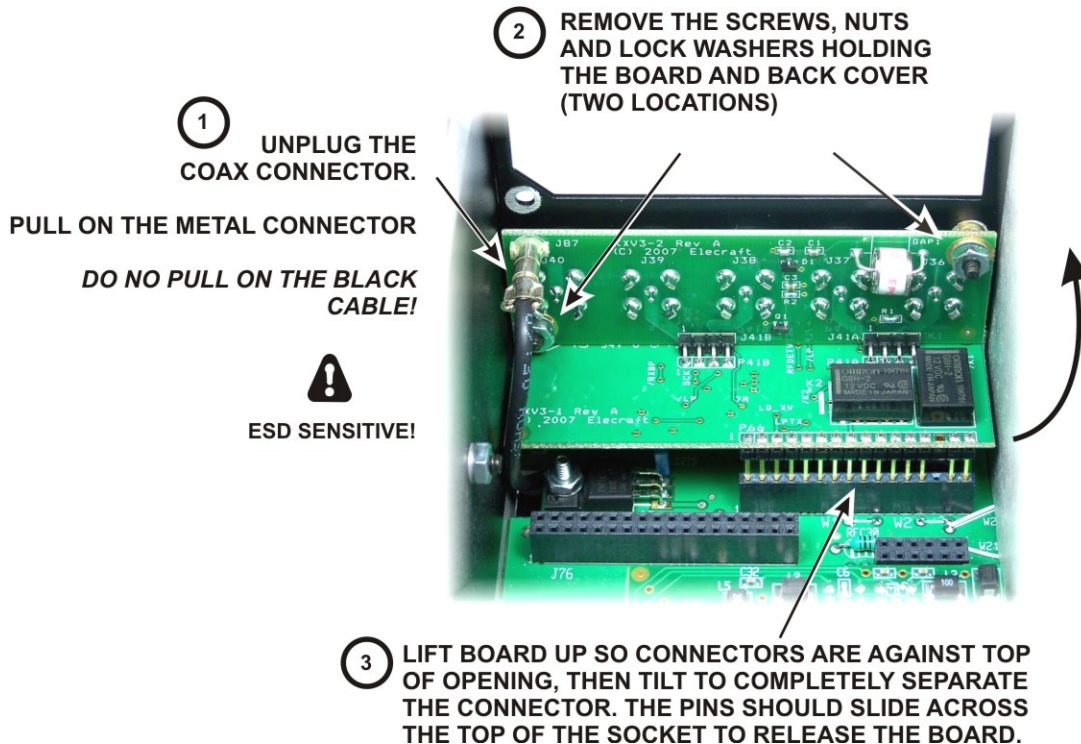

Figure 3. Removing the KXV3 Board.
Remove the KXV3 board as shown in Figure 3.
Replace the KXV3 board in your K3 (see Figure 3) as follows:
- Press down on the KXV3 board to mate the connector only far enough to align the screw holes with the holes in the back panel. Remember that a portion of the pins will still be visible when it is in position (See Figure 3).